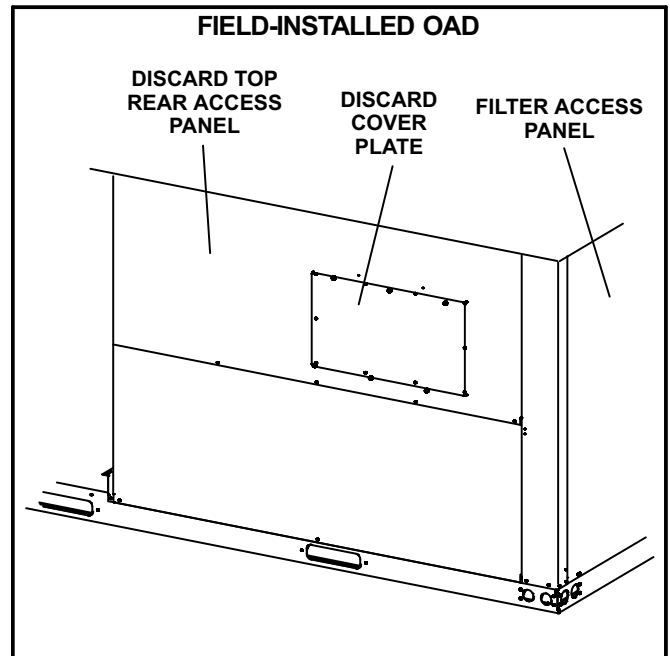

FIGURE 3
- 3- Remove and retain sheet metal screws securing cover plate to the top rear access panel. Discard access panel. See figure 3.
- 3- Remove and retain sheet metal screws securing the cover plate to the top rear access panel. Discard cover plate. See figure 3.